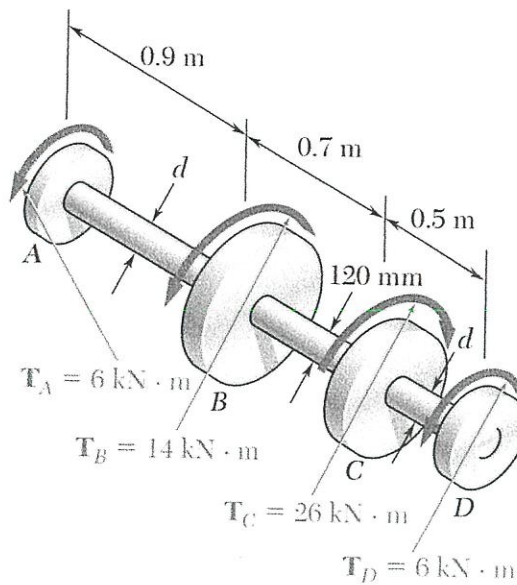

Figure Q5(b)
- Q5** (a) State **THREE (3)** simple torsion theory assumption. (3 marks)
- (b) For the loading shown in **Figure Q5(b)**, shaft BC is hollow with inner and outer diameters of 90 mm and 120 mm, respectively. Shaft AB and CD are solid of diameter d .